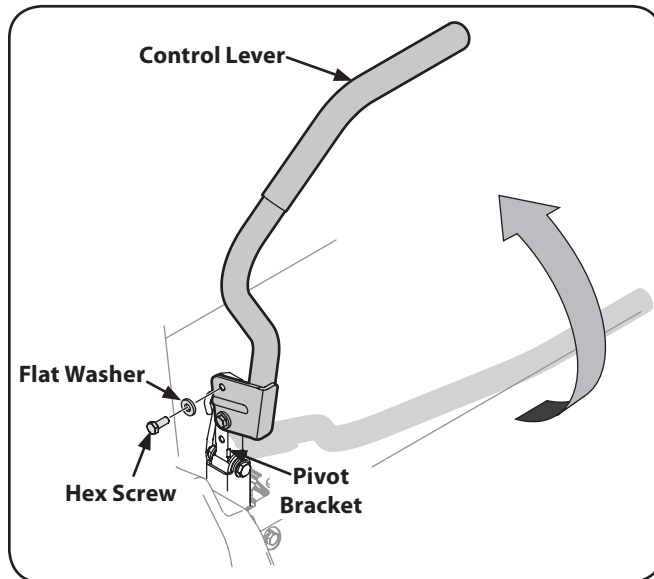

Figure 3-4
2. Lift and swing that control lever upward until the slotted hole in the lever bracket aligns with one of the holes in the pivot bracket. See Figure 3-4.
3. Slide the flat washer onto the hex screw. From the outside, insert the hex screw with washer through the control lever slot and the hole of the pivot bracket. See Figure 3-4. Using a ½" wrench snug the screw, but do not fully tighten.